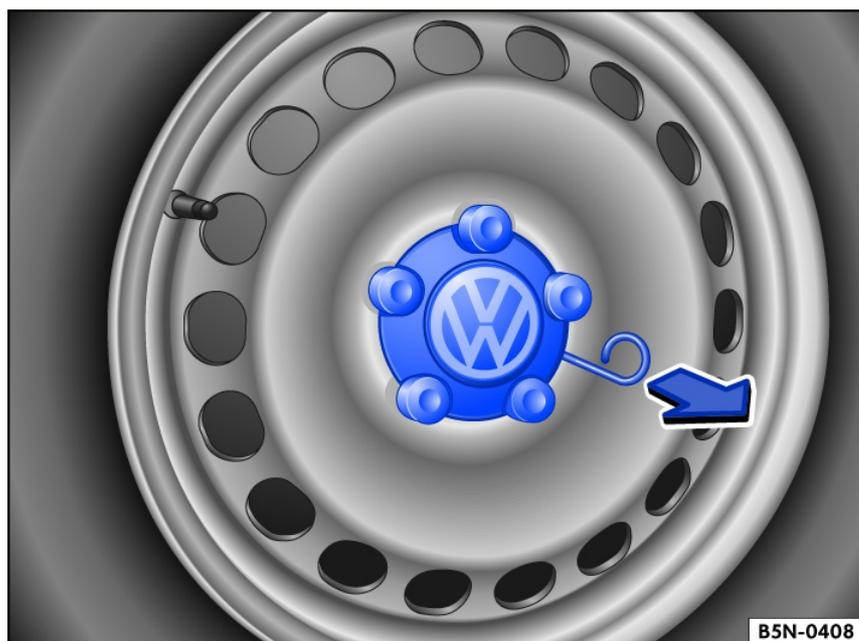

Fig. 212 Remove the hubcap.
1. *Removing:* Take the extraction hook out of the vehicle toolkit ⇒ Vehicle tool kit components and insert in a hole (alloy wheel) or hook it to the edge (steel wheel) of the hubcap fig. 212.